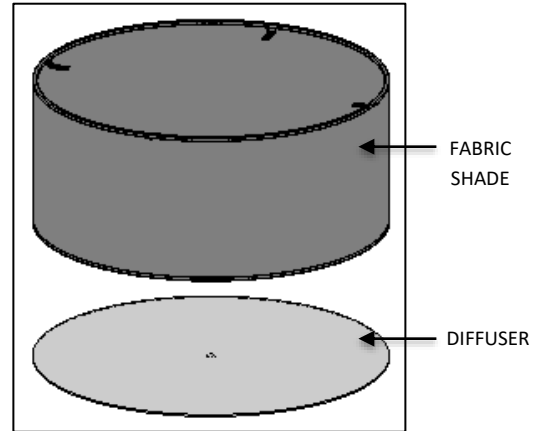

FIG. 21 – DIFFUSER INSTALLATION
10. Insert DIFFUSER into FABRIC SHADE by sliding in at an angle through the bottom (side with no brackets as shown in FIG.21). Be careful not to damage the fabric. DIFFUSER will rest on the frame of fabric shade.